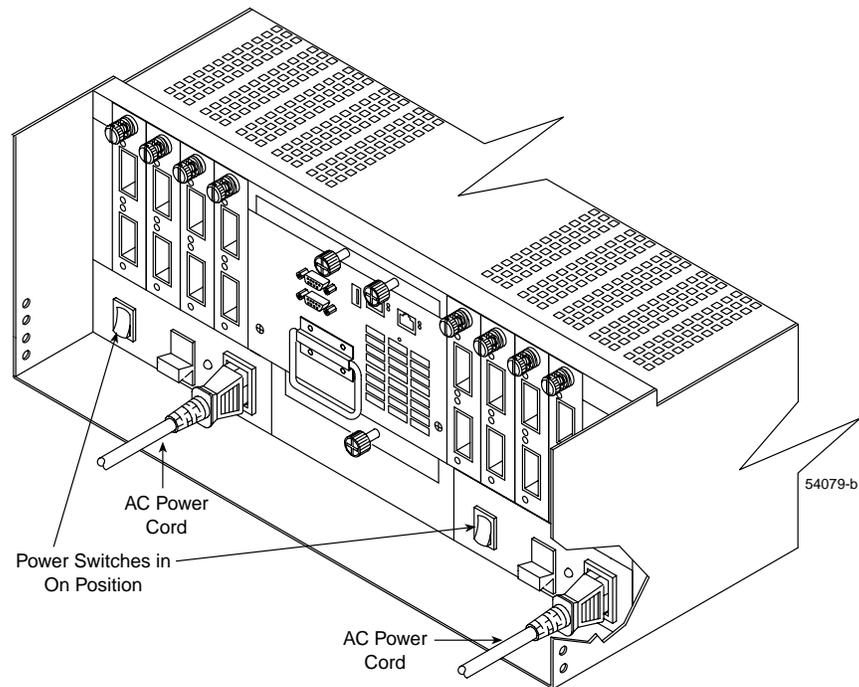

Figure 3-2 Turning the Power On
2. Turn on both power switches on the rear of the controller enclosure (Figure 3-2). You must turn on both switches to take advantage of the redundant power supplies. Then, go to “Checking the Controller Enclosure Indicator Lights” on page 33.
4. Once the air temperature is below the upper operating temperature of 45° C (113° F), turn on both power switches on the rear of the controller enclosure (Figure 3-2). You must turn on both switches to take advantage of the redundant power supplies. Then, go to “Checking the Controller Enclosure Indicator Lights” on page 33.
2. Turn on the power (Figure 3-2 on page 27).
- c. Turn on both power switches on the rear of the controller enclosure (Figure 3-2). You must turn on both switches to take advantage of the redundant power supplies. Then, go to “Checking the Controller Enclosure Indicator Lights” on page 33.
3. Turn off the power switches on the rear of the controller enclosure (Figure 3-2).